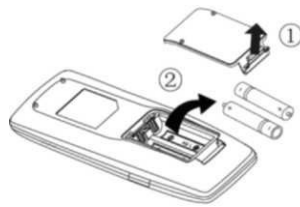

Fig. 1
- (1) Lift the cover in the direction of the arrow (as shown in Fig. 1 ①).
- (2) Take out the original batteries (as shown in Fig. 1 ②).